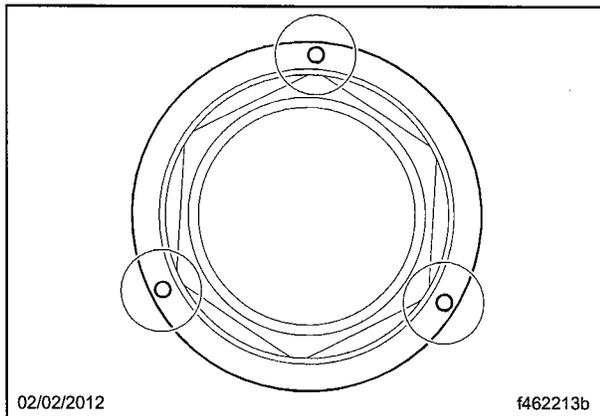

Fig. 5, Pre-Punch the Bearing Access Cover
2. Place the new ball bearing access cover on a bench or table. Using a center punch, lightly tap three small equidistant punch marks on the outside of the cap. See Fig. 5. Each mark should be approximately 0.08 in (2 mm) from the outer edge of the cover.